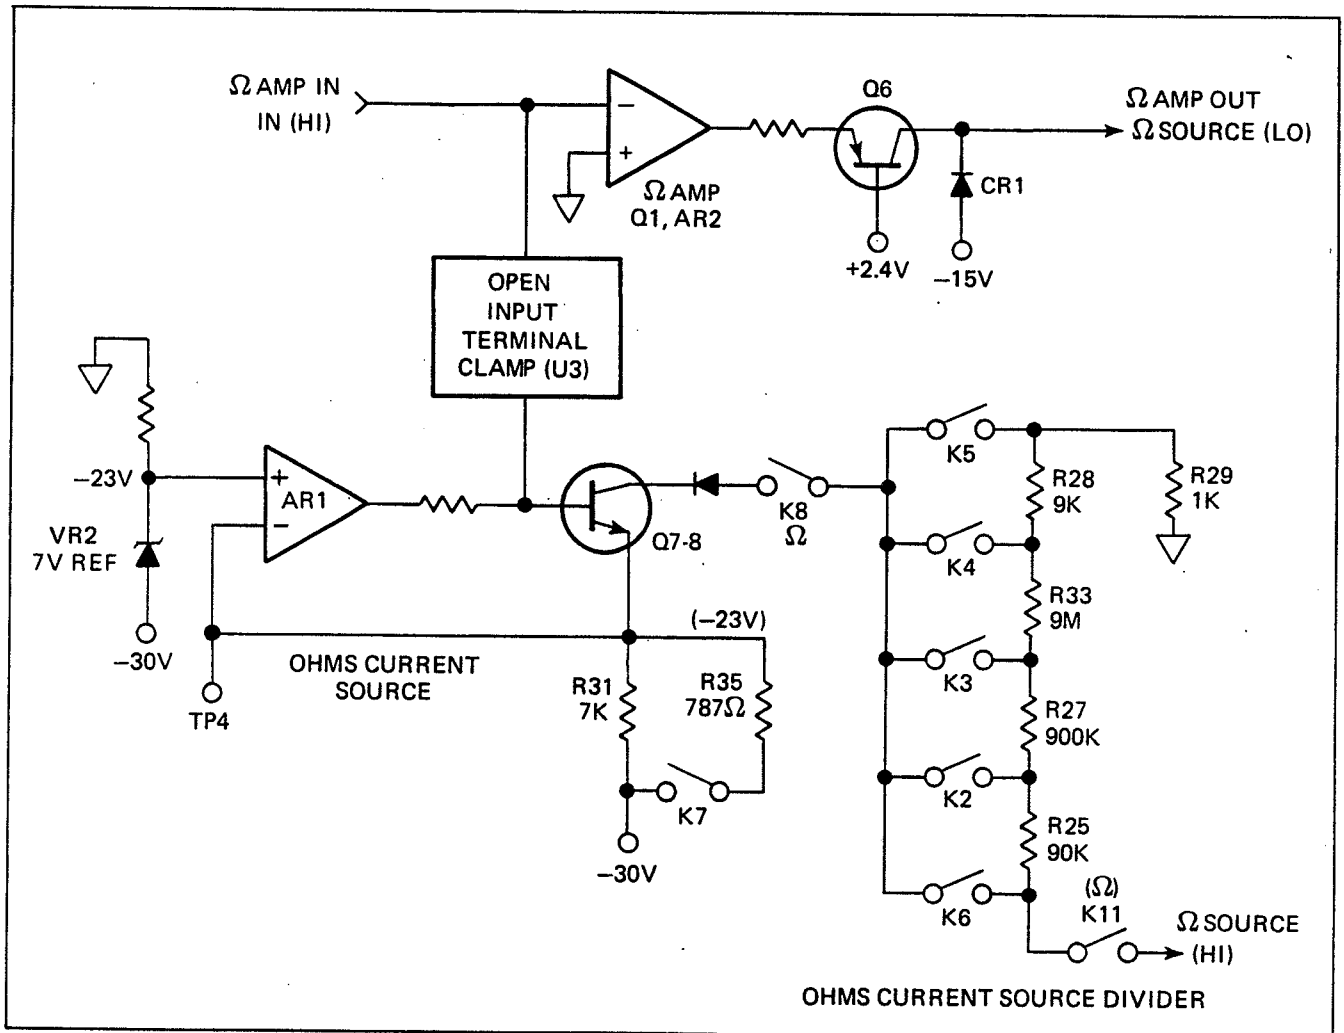

Figure 4.5 - Simplified Ohms Converter
4.3.5.2 The Ohms current source utilizes an accurate reference voltage to generate a reference current source through the resistor divider and current switching network, refer to Figure 4.5. An open input-clamp is also part of the ohms converter circuit. The ohms voltage reference is a 7 volt temperature-stabilized zener, VR2. The 7 volt reference is buffered by the ohms current source generator op-amp AR1. The current through darlington transistor pair Q7 and Q8 is determined by R31 and R35. This network supplies 1 mA or 10 mA to the current-divider network. Relay K7 switches R35 in parallel with R31 to generate the 10 mA current source. The lower  $\Omega$  source currents required for the 10K, 100K, 1000K and 10,000K $\Omega$  ranges are established by dividing the Ohms CURRENT SOURCE output. The current divider consists of R25, R27, R28, R29 and R33 and the division is controlled by range relays K2-K6. The ohms ranges, current sources and the range relays are shown in Table 4.4.